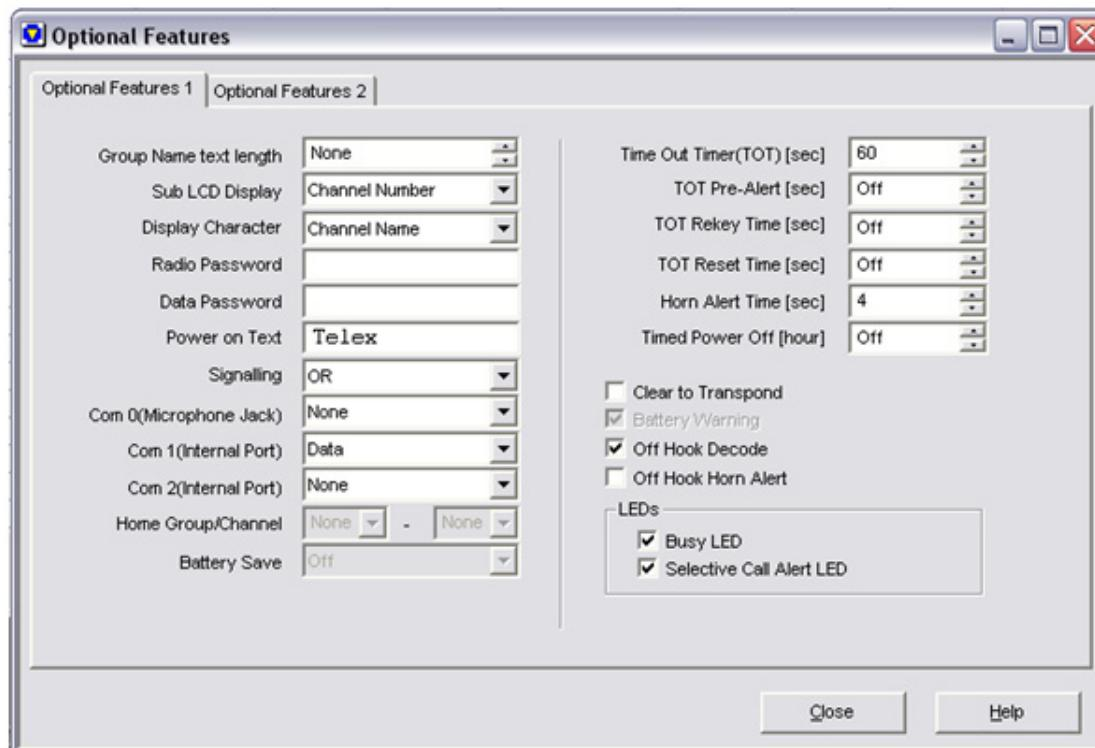

FIGURE 11. Program Com 1 for DATA
1. Program **Com 1 for DATA** (Figure 11).